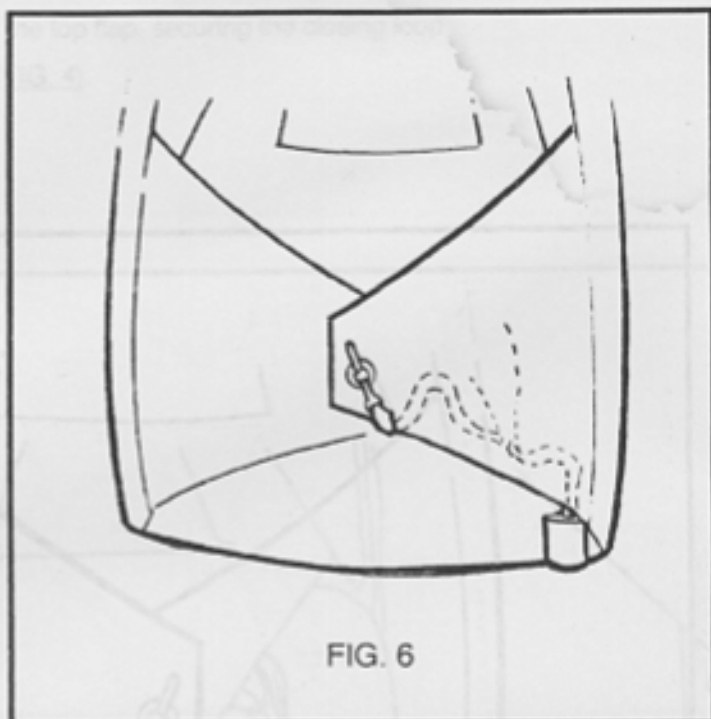

FIG. 6
- 6) Tuck the slack in the tape under the right side flap. (FIG. 6)